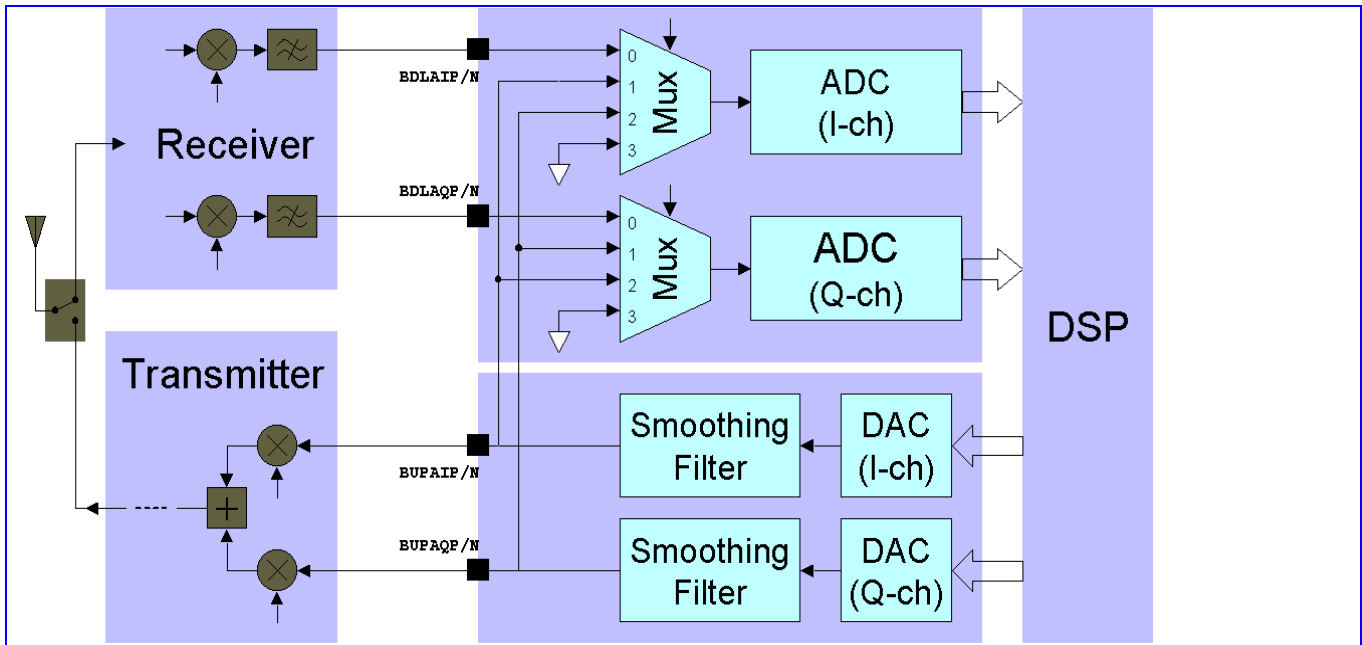

Figure 76 Base-band A/D and D/A Offset and Gain Calibration
The base-band downlink receiver (RX), together with the base-band uplink transmitter (TX) introduced in the next section, provides necessary analog hardware for DSP algorithm to correct the mismatch and offset error. The connection for measurement of both RX/TX mismatch and gain error is shown in **Figure 76**, and the corresponding calibration procedure is described below.